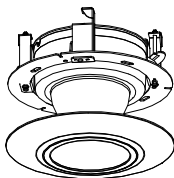

Figure 2-53 Assemble the Decorative Rim
6. Fix the decorative rim with the bubble and the decorative rim will be attached to the in-ceiling bracket automatically, as shown in Figure 2-53.